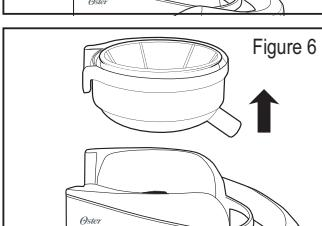

Figure 6
- In order to remove the filter basket and the filter, hold the filter basket with two hands and then lift it straight up (**Figure 6**)